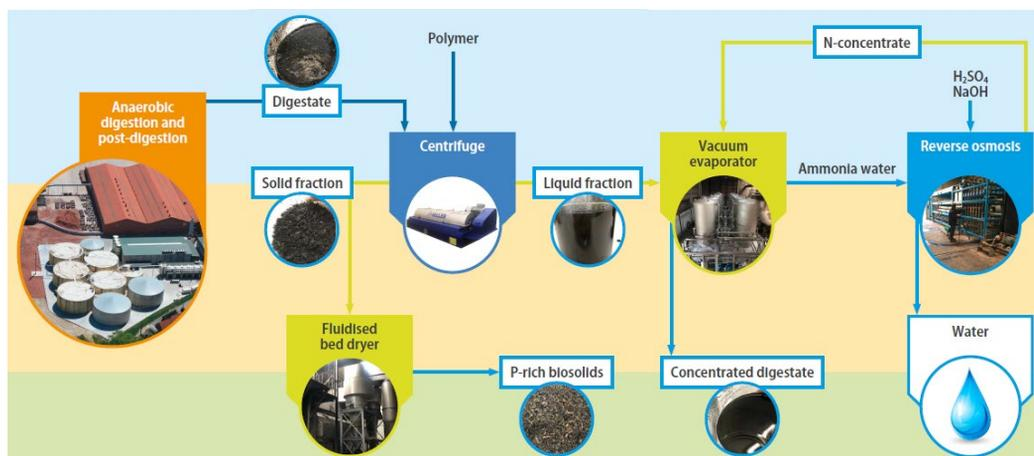

Figure 2. Overview of AM-Power's current process scheme.
- Digestate was diluted with liquid fraction of digestate (LF) and sent to two decanter centrifuges for solid/liquid separation. Coagulation and flocculation were favoured by the addition of polymer and iron sulphate. Dilution with recirculated LF was necessary for a better efficiency of the reverse osmosis (RO) step. Each of the two centrifuges requires about 146 kW of electrical energy.
- The phosphorus (P) rich solid fraction of digestate (SF), with a DM content of 24%, was dried in a fluidized bed dryer (268 kW of electricity and 3000 kW of heat). Drying of the SF was accomplished by recycling waste heat from the CHP installation. The exhaust gas from the CHP installations (160 °C) is mixed with ambient air to a temperature of 80 °C. Dry biosolids (containing 2% total-P and 90% DM) were exported to France where P demand is high.
- The nitrogen (N) and potassium (K) rich LF was first processed in a dissolved air flotation unit (DAF), which requires 7 kW of electricity. Iron chloride and polymer were added to reduce the DM content of the LF to 1.2–1.6% DM. Next, the RO unit (100-130 kW) required the addition of sulphuric acid to the influent to ensure a good membrane separation. The resulting concentrate, rich in N and K (respectively 0.5% and 0.4%), was used as a fertiliser on local agricultural land. Permeate water was recycled on site.
**The adjusted process includes a continuous multiple effect vacuum evaporator prior to the RO, thus increasing the recovery of nutrients from digestate (Figure 2).**